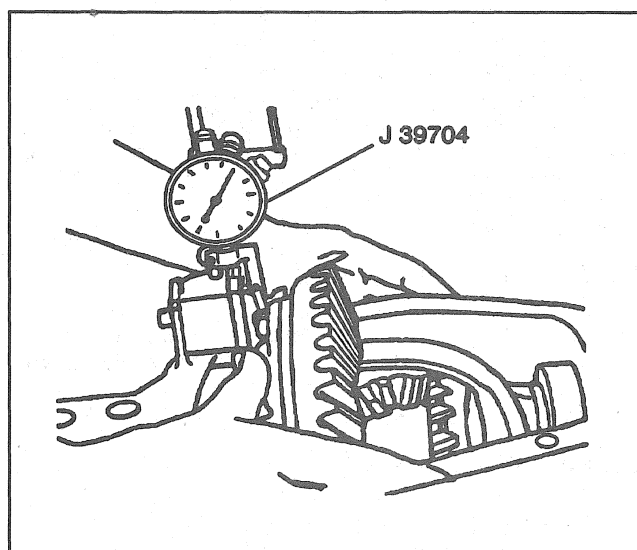

Figure 16—Determining Differential Shim Pack
1. Assemble the case (22) to the axle housing. The pinion must not be installed.
2. Mount a dial indicator having a minimum travel of 5 mm (0.200 inch) with a magnetic base on the ring gear bolt side of the housing (Figure 16).